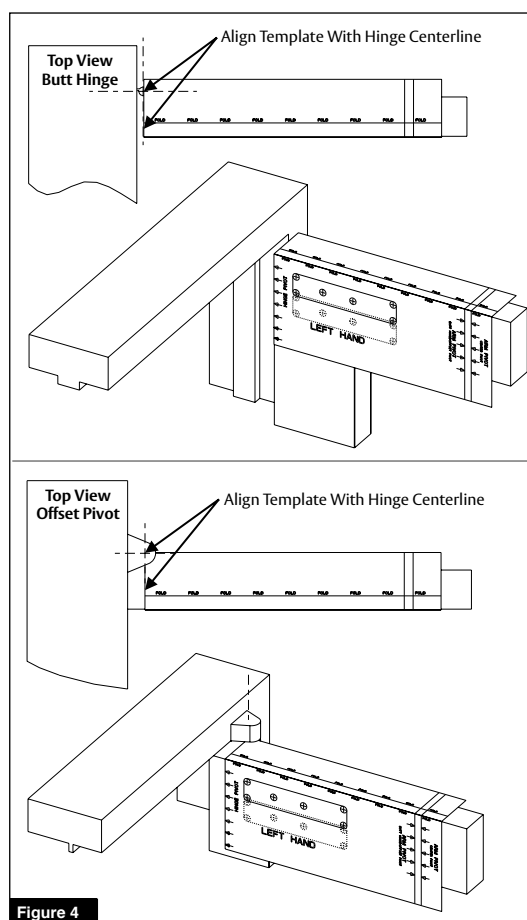

Figure 4
3. Determine type of door hinge (butt, offset pivot, or center pivot) and align template at centerline of door hinge or pivot. (Figure 4)